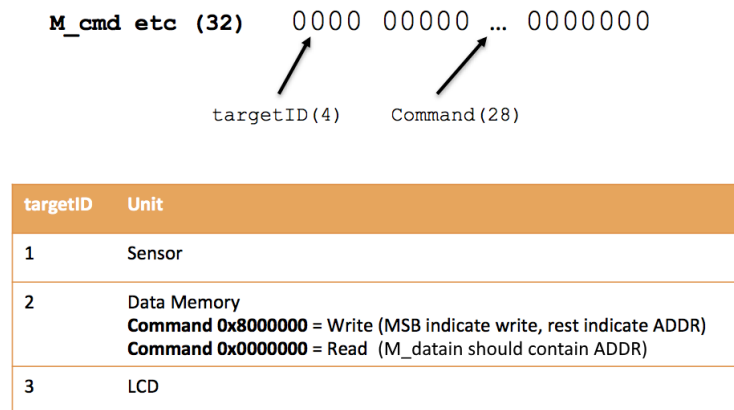

Figure 14: Command signal format
4. Based on the `S_bus_cmd` (which for all slave interfaces is connected to `M_bus_cmd`) a particular slave interface reacts on this request by setting `S_bus_ack` to '1' and sends the command to the slave unit. The `M_cmd` has the form as seen in Figure 14. The figure shows that the first 4 bits of the `M_cmd` is used to identify the slave, which should respond to this data. This is defined by the `targetID` signal, which is defined when the slave bus interface is initialized and will never change value. The figure also shows the `targetID` value for each of the 3 slaves in the system.